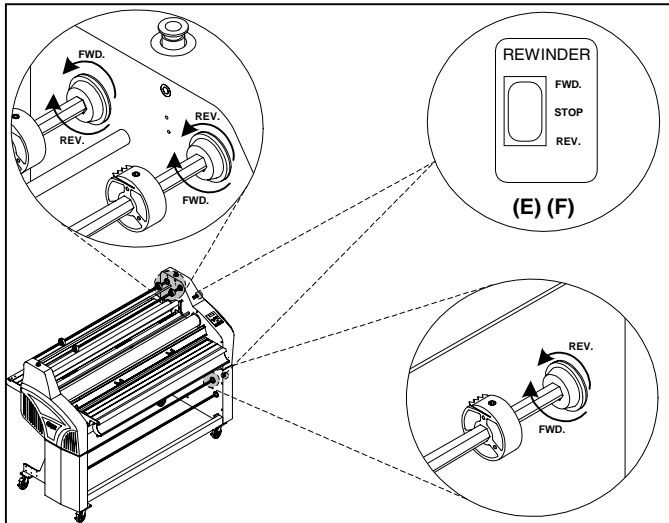

Fig. 10
E. UPPER REWINDER DIRECTION SWITCH: (Figure 10) This switch enables the operator to control the direction of the upper rewind/unwind shafts.
F. LOWER REWINDER DIRECTION SWITCH: (Figure 10) This switch enables the operator to control the direction of the Lower rewind/unwind shaft.